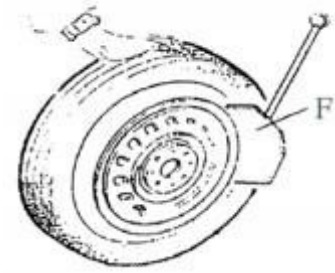

Fig 5
Make sure to completely remove any air in the tire. Place the tire against the rubber padding (S). Bring the bead breaker (F) against the tire bead at a distance of about 10 mm from the edge of the rim (Fig 5). Press the bead breaker pedal (U) to push the breaker into the tire. Repeat the above procedures on different positions around the tire and on both sides of the tire until the bead has been completely released from the rim.